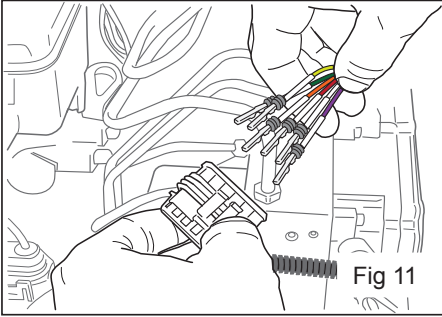

Fig 11
11. Pull through 12 inches of harness through the firewall from interior into the engine bay. Connect the wires into the 6 pin black connector. There are numbers on the connector that correspond to the numbers on the wire harness; populate the connector. (Figure 11 & 12)